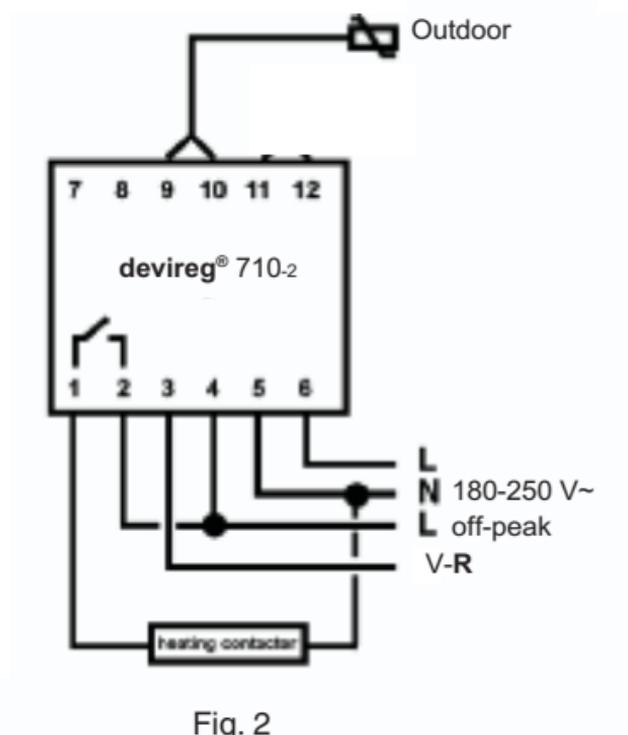

Fig. 2
3. The **devireg® 710-2** is connected as shown in fig. 2.